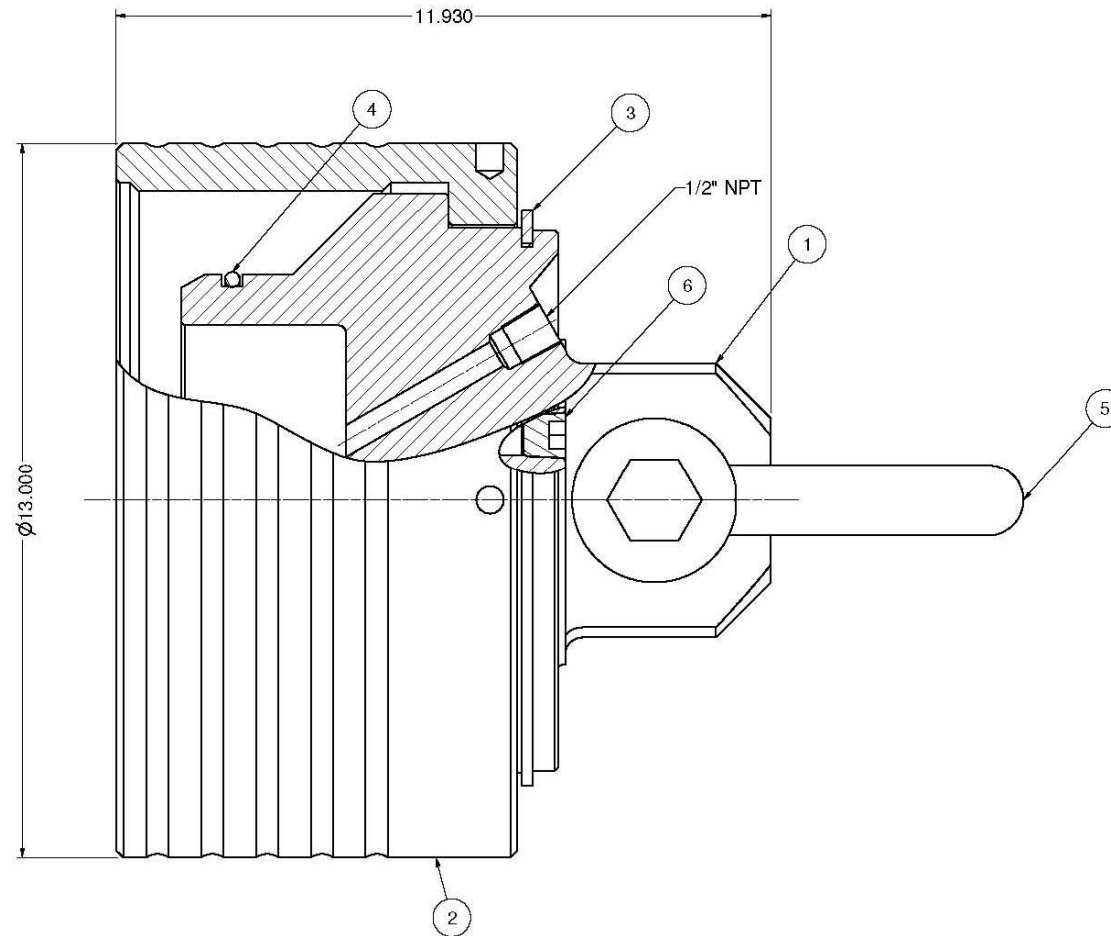

Figure 2: Lift Test Cap Assembly
Note: Thread Protector (item 100) not shown in assembly drawing Figure 2